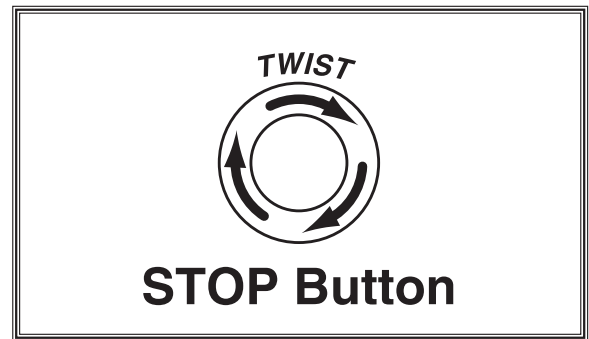

Figure 32. Resetting Emergency Stop button.
5. Twist Emergency Stop button clockwise until it springs out (see **Figure 32**). This resets switch so machine can start.